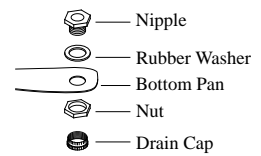

Fig. 2
- **Install drain assembly.** Place the nipple through the hole in the pan, with the rubber washer between the pan and the head of the drain nipple (Fig. 2). Thread nut onto nipple and draw up tight against bottom of pan. Thread the drain cap to the nipple and tighten water tight.